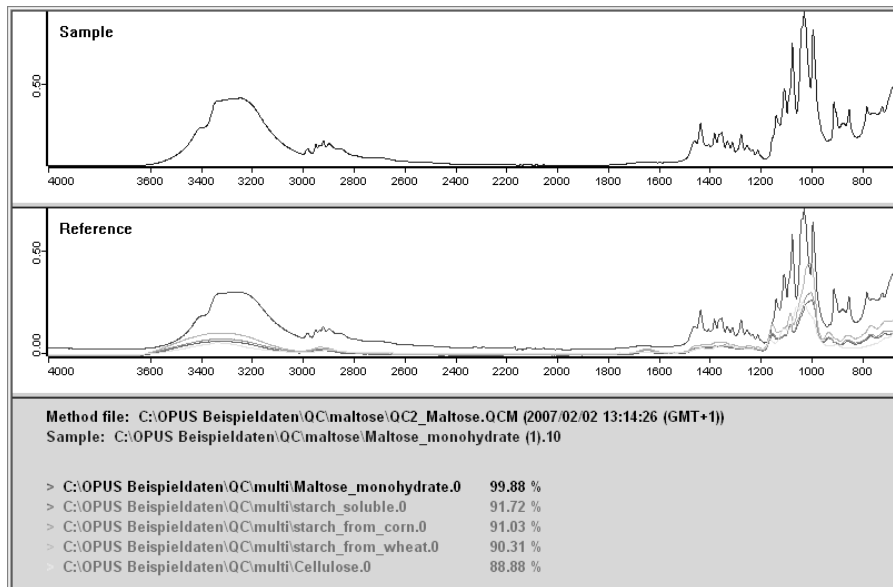

Figure 59: Result of a Quick Compare using several references - 1 hit has been found
- If you have selected all spectrum files of a certain directory as reference, you will not get a simply *OK* or *Not OK* as result. In this case, only those reference spectra which have a sufficient similarity with the sample spectrum, due to the threshold value you have entered and the correlation value OPUS has calculated, are displayed black. All other reference spectra which do not show a sufficient similarity with your sample spectrum are displayed gray (see figure 59)-